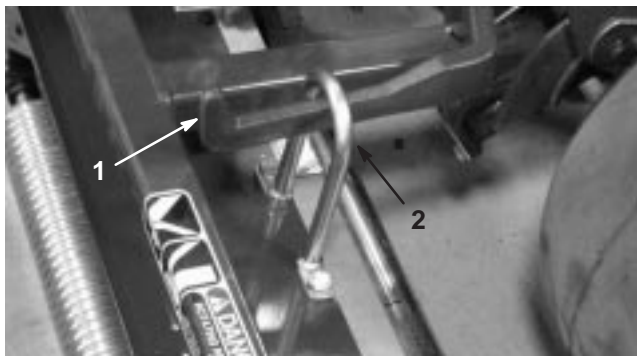

Figure 10
- Slide the cutting unit under the pull frame while hooking the lift hook onto the lift arm (Fig. 10).